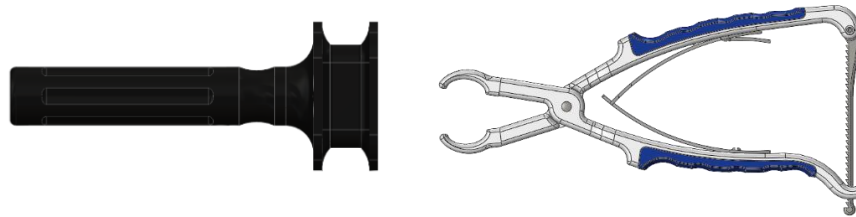

Figure 12
*If compression is desired, place the Fulcrum tool (**Figure 12**) between the proximal end of the extended tabs and compress the tabs below the Fulcrum.*